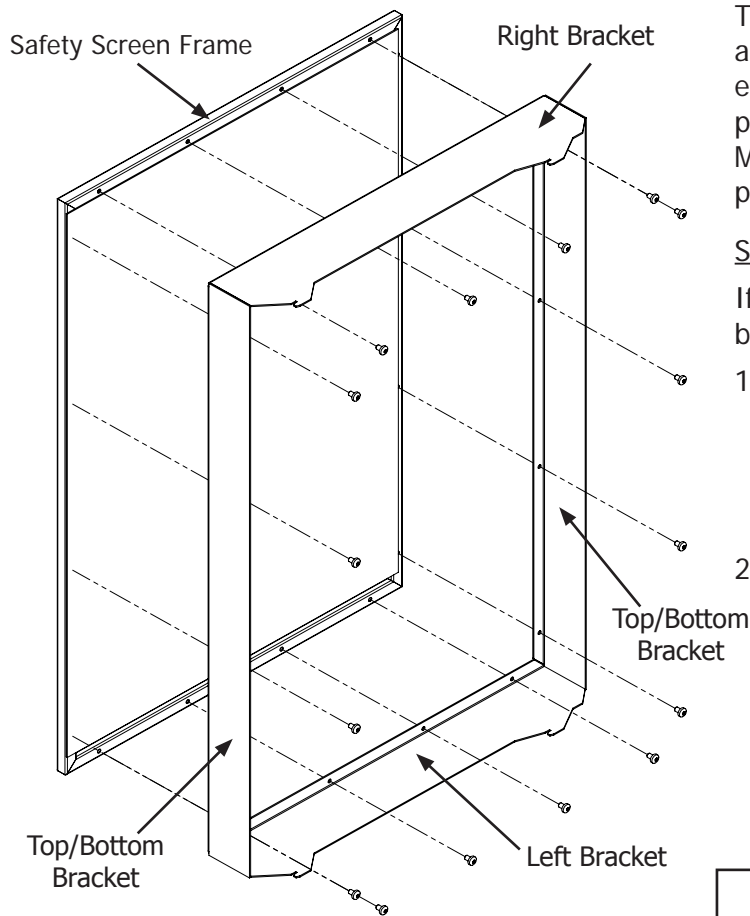

Figure 67: Installing Safety Screen Mounts.
1. Attach the left, right, top/bottom brackets onto the safety screen using a T20 screwdriver and the supplied sixteen (16) #8 T20 screws (see Figure 67). Do not over-tighten the screws, doing so could cause them to strip out of the screen frame.